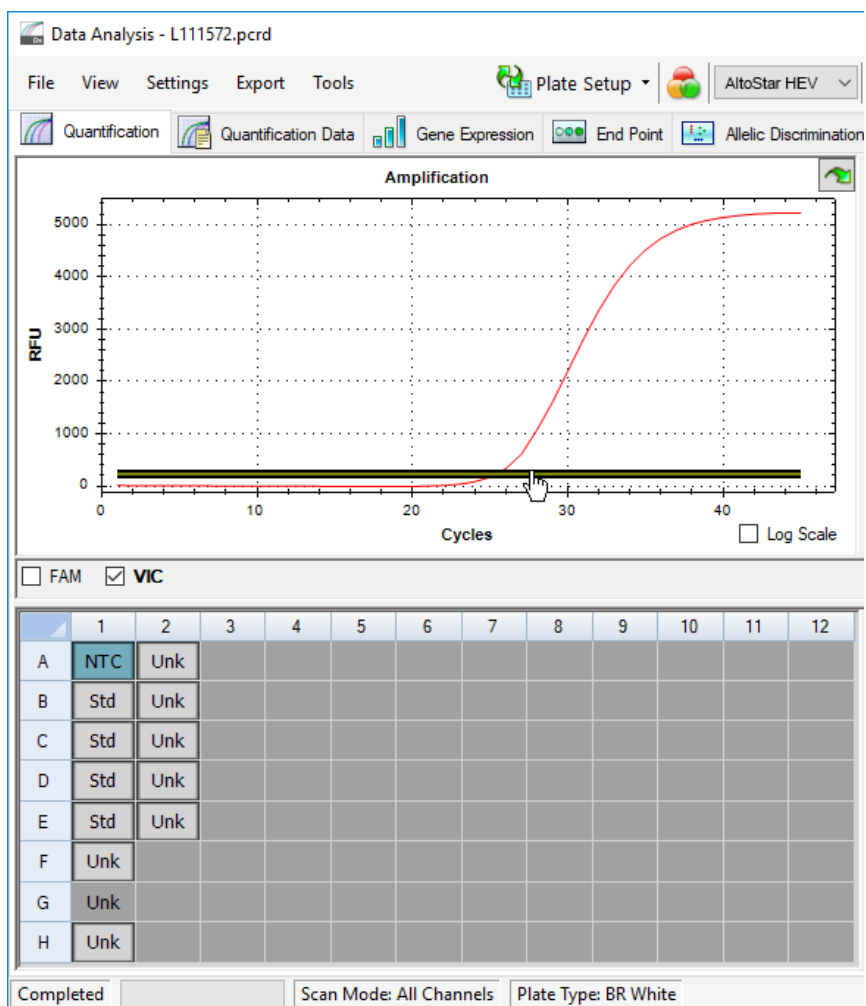

Figure 9: Data Analysis window: setting the VIC™ threshold
- At the left side of the Data Analysis window tick only the **VIC** checkbox for the detection channel of the IC (see figure 9).
3. Select only the NTC well in the plate view of the Data Analysis window (see figure 9).
4. Drag the threshold into the exponential area of the NTC signal (see figure 9).